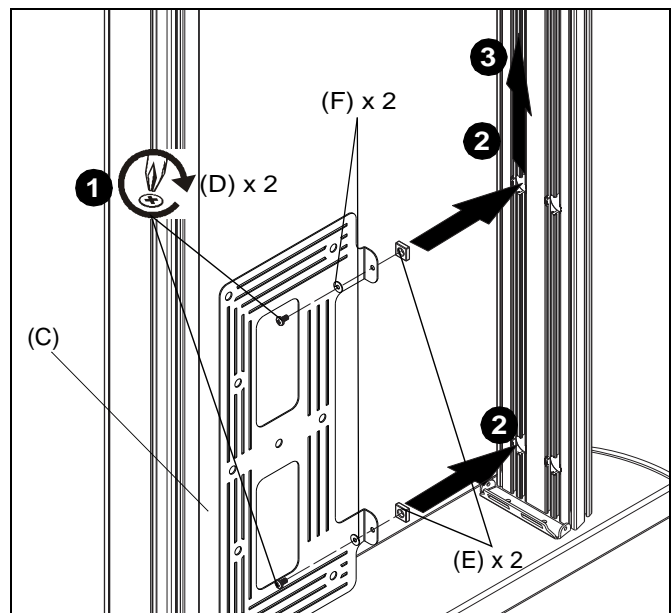

Figure 12
1. Loosely install two #10-24 x 3/8" Phillips head machine screws (D) through two #10 washers (F), holes in component bracket (C) and into two #10-24 square nuts (E). (See Figure 12)
2. Insert two #10-24 square nuts (E) into two openings on column channel. (See Figure 12)
3. Lift component bracket (C) to desired mounting position. (See Figure 12)
4. Tighten screws to a torque force of 10 ft-lbs. (See Figure 12)